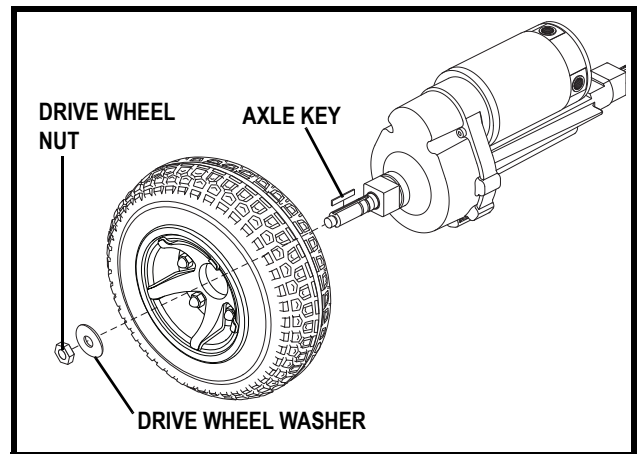

Figure 25. Drive Wheel Removal
4. Remove the drive wheel nut and washer from the axle. See figure 25.
9. Slide the wheel back onto the axle. Make sure that the axle key is in the axle slot. See figure 25.